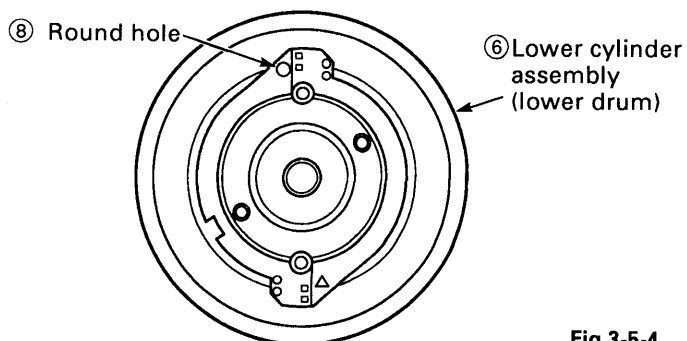

Fig.3-5-4
1. When carrying out assembly, the CH-1 head on the upper cylinder assembly (upper drum) ④ and the lower cylinder assembly (lower drum) ⑥ must be aligned. The CH-1 head on the upper cylinder assembly ④ bears a code ⑦ such as 2N2S-V, 2N4N, or 4H6N, as shown in Fig.3-5-3. The CH-1 on the lower cylinder assembly ⑥ has a round hole ⑧, as shown in Fig.3-5-4. Assemble the parts so that the round hole ⑧ is next to the code ⑦ on the upper cylinder assembly.